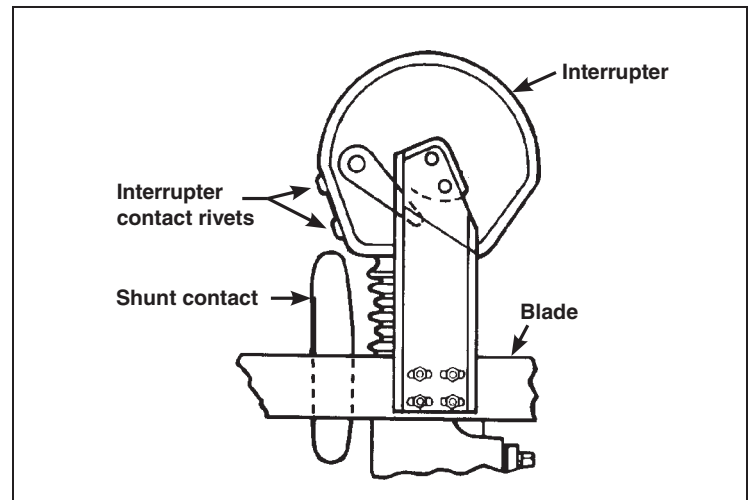

Figure 46. The blade assembly moving in the *opening* direction.
- (g) Move the blade in the *opening* direction and verify that each blade-shunt contact firmly engages its respective interrupter contact rivets before the blade contacts disengage from the stationary main contact assemblies. See Figure 46. The shunt contacts may be bent as required to conform to these conditions.